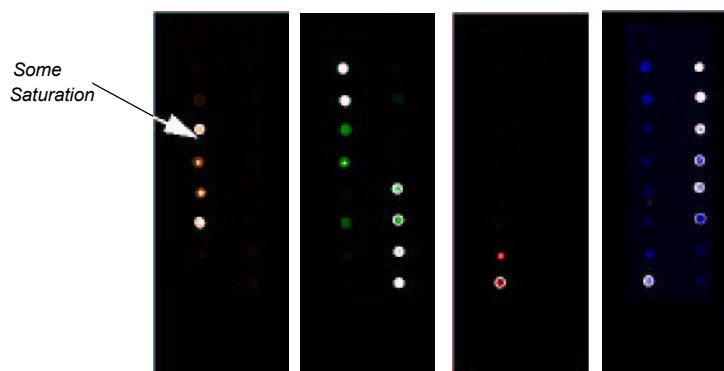

Figure 5-1 16DyesStd Sample - Four Color Test Images
6. Click **Start** to start scanning the image. One image window is displayed for each laser in the system. Use the rainbow palette when viewing the images. White denotes saturation in the palette used in Figure 5-1.